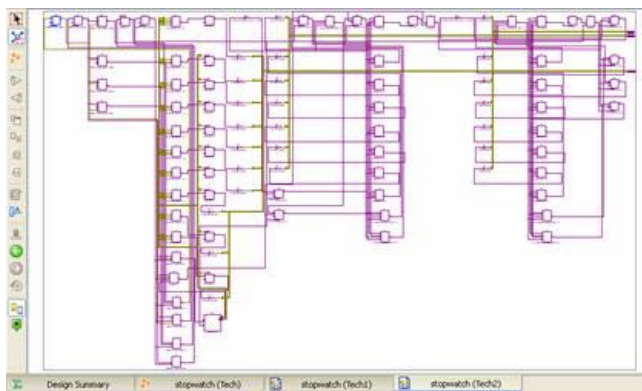

Figure 7-3: Adding Output
4. Click on the **Stopwatch (Tech)** tab to return back to the Schematic wizard. Select **Create Schematic** to open a new schematic tab. Select the visualized flip-flop, and select **Add Output Cone** from the right-click context menu. The output will appear as shown in Figure 7-3.